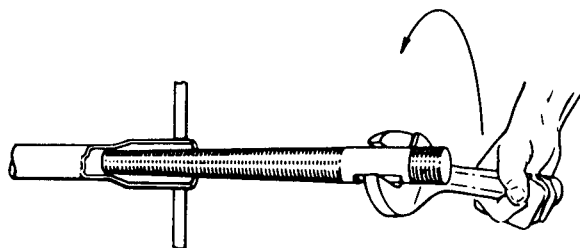

FIG. 15 – STEP (4) IN TUBE REMOVAL
4. Turn the spear of the Jenny into the other end of the tube. Use a crescent wrench to get a firm hold on the tube. This will ensure that the spear will not pull out of the tube when the tube is being extracted. See Figure 15.